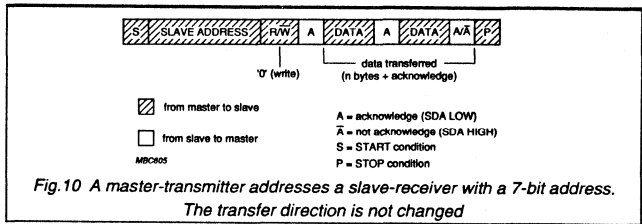

Fig.10 A master-transmitter addresses a slave-receiver with a 7-bit address. The transfer direction is not changed
- Master-transmitter transmits to slave-receiver. The transfer direction is not changed (Fig.10).